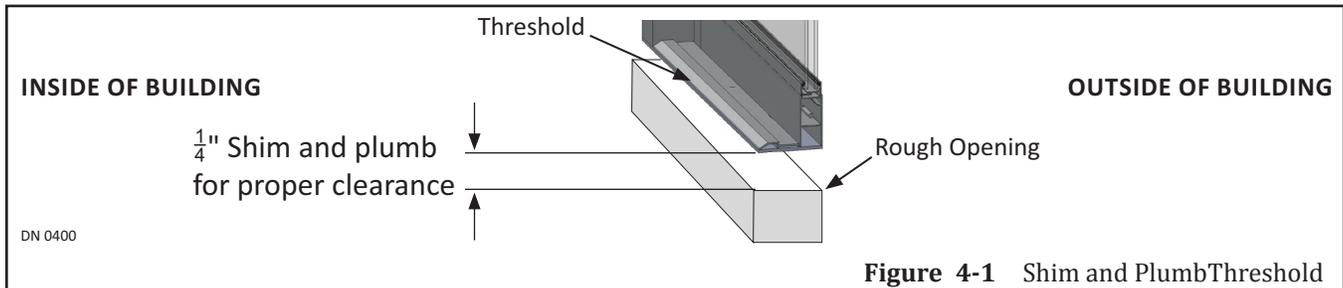

Figure 4-1 Shim and Plumb Threshold
2. Plumb Threshold to ensure the Rough Opening allows a 1/4 inch clearance. Please see Figure 4-1.